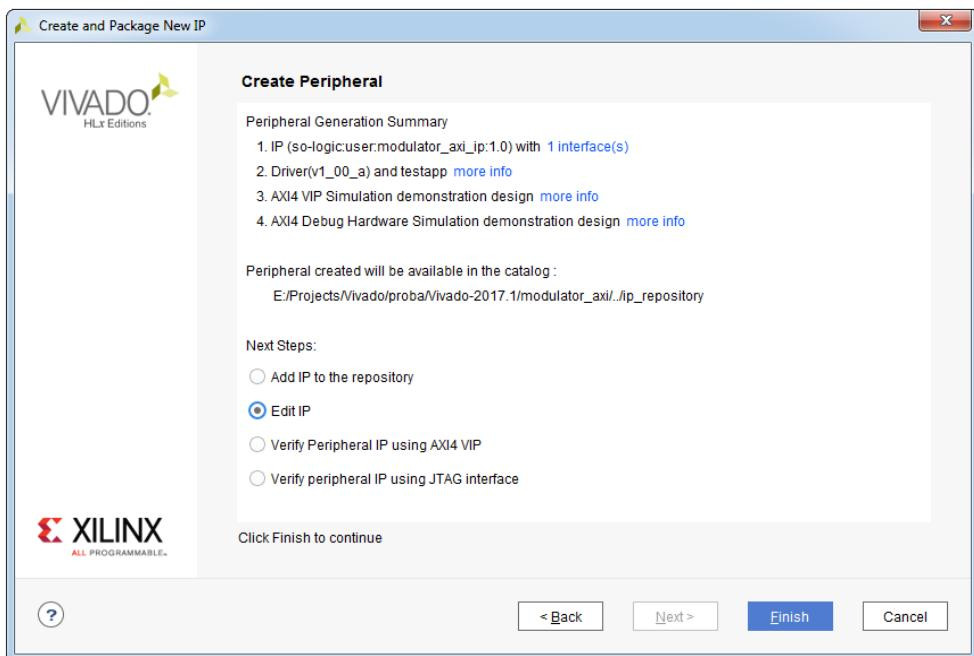

Figure 12.72: Create Peripheral dialog box
12. In the last **Create Peripheral** dialog box, select **Edit IP** option and click **Finish**, see Figure 12.75. Another Vivado window will open, which will allow you to modify the peripheral that we just created, see Figure 12.72.